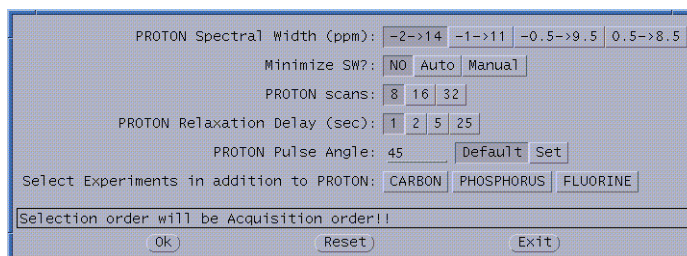

Figure 45. CustomQ HCPF 1D Acquisition Options
- Click on **OK**, then **Exit**. The window shown in **Figure 45** opens.